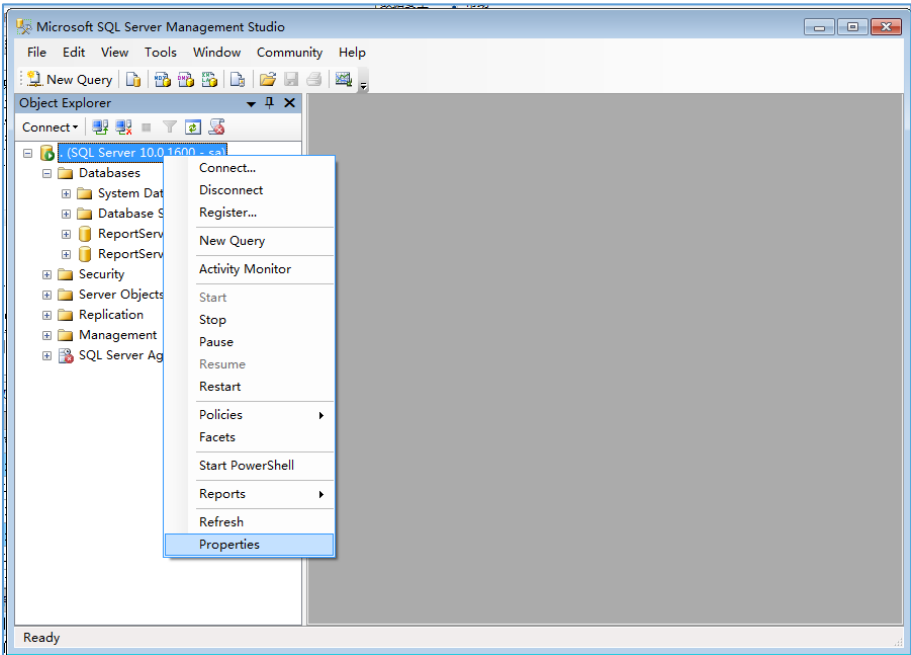

Fig.1.1 Microsoft SSMS
**Step One:** Open SQL Server Management Studio and login database by using windows authentication. Then right click “SQL Server”, choose “Properties” (see Fig.1.1).